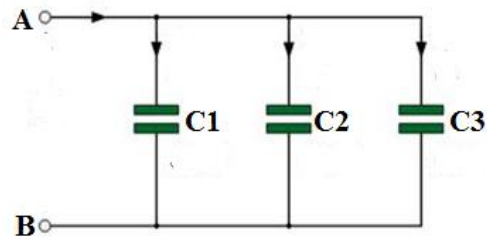

Figure 4.1: Parallel Combination Circuit
- Write a BASIC program which calculate equivalent Capacitance (C_{eq}) of parallel combination circuit shown in Figure 4.1.